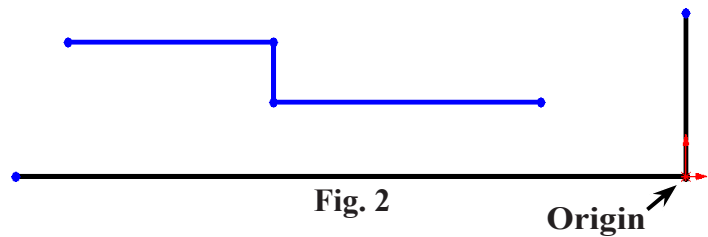

Fig. 2
Step 3. Click **Line**  (L) on the Sketch toolbar.
**Origin** , **Fig. 2**.